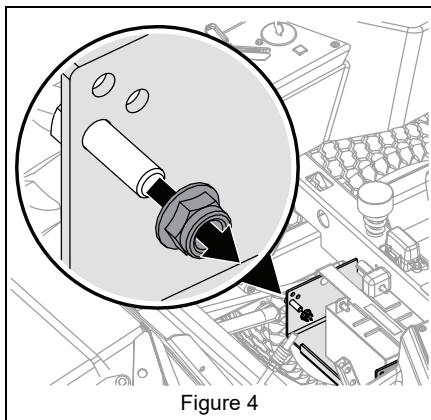

Figure 4
2. Remove nut from bolt on battery tray. Retain nut. See Figure 4.